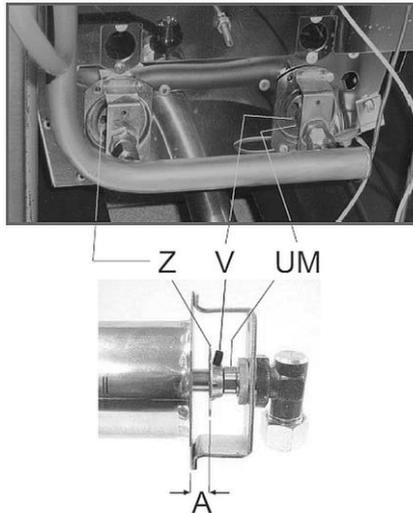

Fig. 3
4. Loosen V bolt (Fig. 3).
5. Remove main burner's nozzle, UM (Fig. 3), and exchange it with a nozzle suitable for the new type of gas (part of the delivery). Follow information provided in Table 2.
7. Set the air controller Z (Fig. 3) within the distance of A, as provided in Table 2.